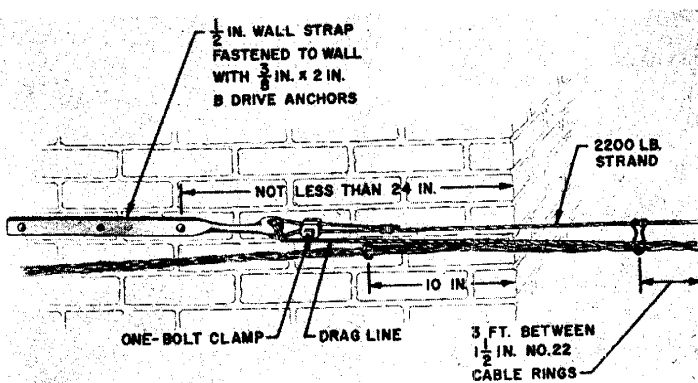

Fig. 13 - Span in Line with Wall
- 9.06** Where span exceeds lengths specified in 9.03 or 9.04, bridle wire may be run in 1 1/2-inch No. 22 cable rings attached to 2200-pound strand. Space cable rings 3 feet apart. Place a drag line in the rings of the crossing span at the time they are attached. The drag line should always be replaced after it has been used for pulling wires across the aerial block wire span. This may be done at the time of pulling in additional wires by attaching a new drag line to the existing line and pulling the new line into the rings at the same time the wire is pulled in. Tie the drag line at the end of the strand. (See Fig. 13, 14, and 15.)